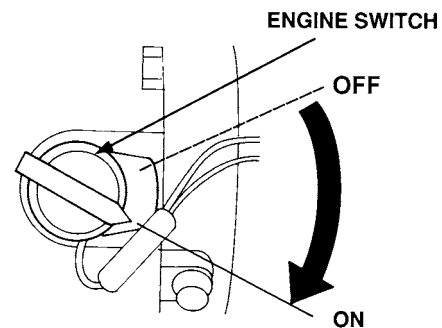

Figure 15. Engine ON/OFF Switch (ON Position)
4. Place the engine ON/OFF switch (Figure 15) in the "ON" position.